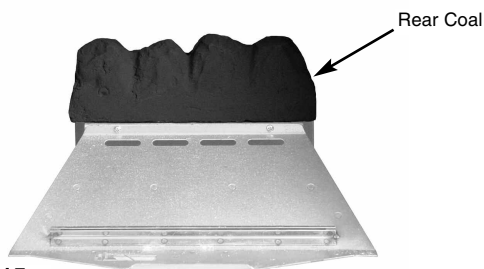

Fig. 15
1. Place the rear coal on the rear coal retainer ledge in a central position (Fig. 15).